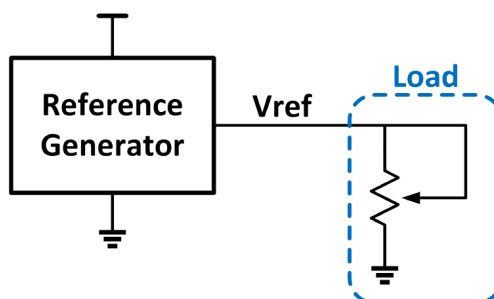

Figure 4: Simple reference generator measurement circuit
1. Draw the voltage reference circuit shown in 3(b) with a resistive load R_L as shown in Fig. 4. Set $V_1 = 4 + 0.5 \sin(2\pi \cdot 100t)$ with $R_{ref} = 100\Omega$. Perform a **DC operating point** simulation while sweeping the resistive load from 10Ω to $2k\Omega$ with an increment of 10Ω . Please refer to the LTSpice tutorial on the website for details on how to set the resistor as the sweep variable.